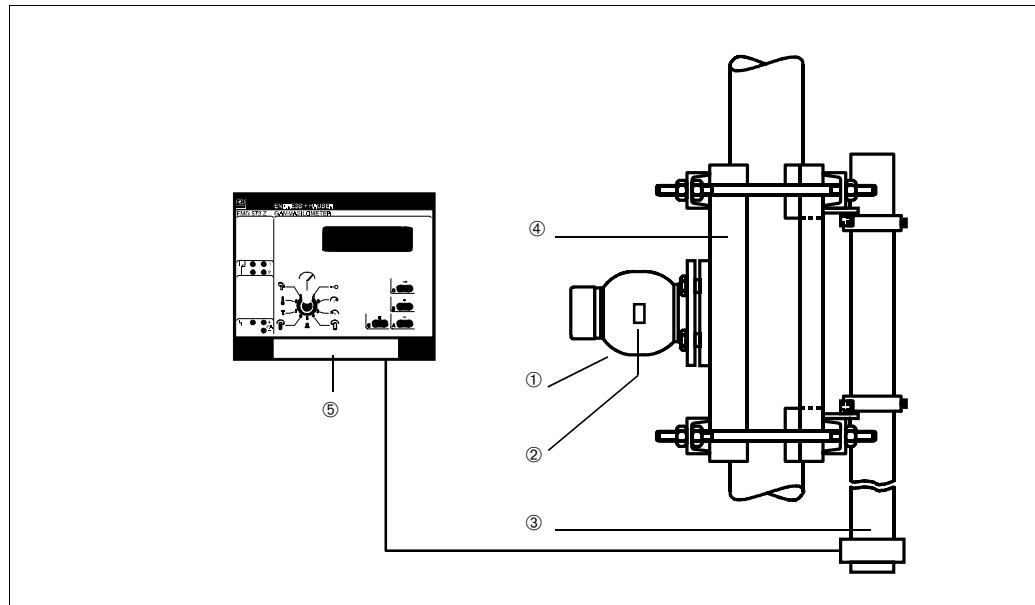

Fig. 1.4
Fig. 1.4 shows the basic configuration. The radiation produced by a radioactive source (2), usually Cs137, is collimated by the source container (1) as a narrow beam. The beam is directed through the pipe towards the detector (3). The detector measures a local dose and generates a pulse rate.
Fig. 1.4 shows the basic set-up for density measurement. The components, which are described in detail in the following pages are as follows.